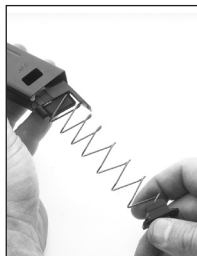

Fig. 19
4. Gradually allow the locking insert and magazine spring to expand out of the magazine housing. (See Figure 19)